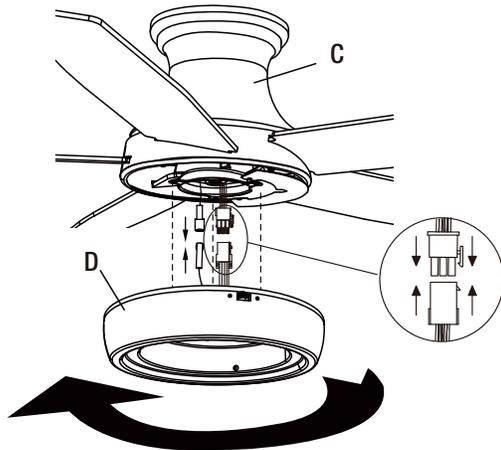

Figure 11
- Connect the blue wire from the fan to the blue wire from the light kit by securely inserting the connectors together. (Figure 11)
- Connect the 6-pin plug from the fan to the 6-pin plug from the light kit by securely inserting the plugs together. (Figure 11)
- Carefully tuck all wires into the switch housing, and align the 3 holes on the light kit (D) to the three screws pre-installed in the switch housing. (Figure 11)